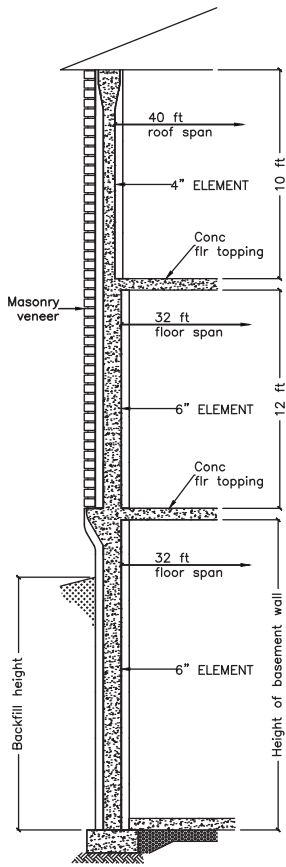

Fig 2A
Tables 2A to 2D shall be used in conjunction with corresponding Figures 2A to 2D, the notes listed below, and the building limitations noted in the “Reinforcement Tables” section, which form the basis of these tables.
2. Table 2A shall be read in conjunction with Fig 2A, and "NOTES FOR TABLES 2A TO 2D - ELEMENT BELOW-GRADE TABLES."